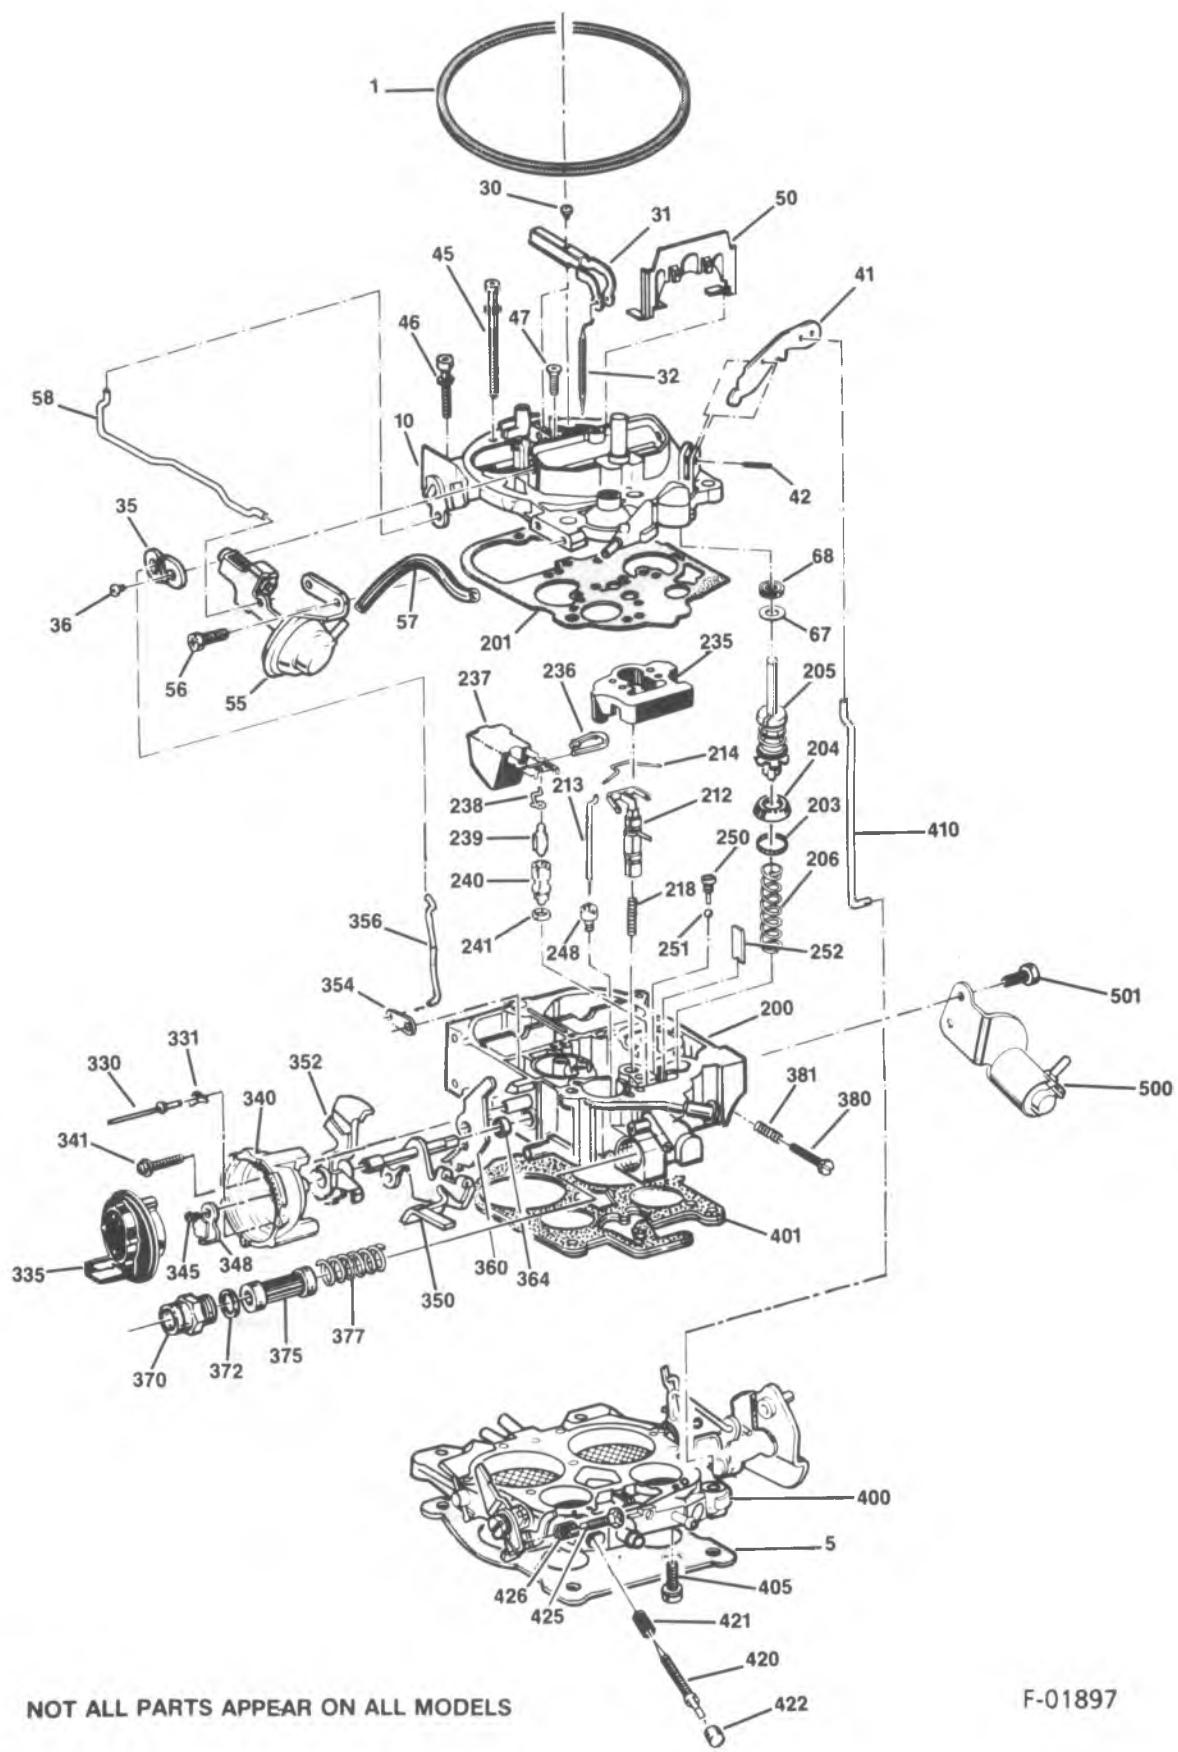

Figure 14 -- Model M4MEF (Federal Applications)
- M4MEF Figures 14 and 15.
2. Make two parallel hacksaw cuts in the throttle body, between the locator points near one idle mixture needle plug (422). The distance between the cuts depends on the size of the punch to be used.